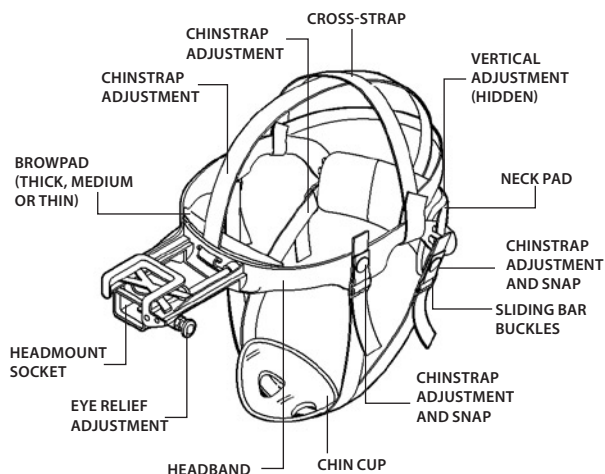
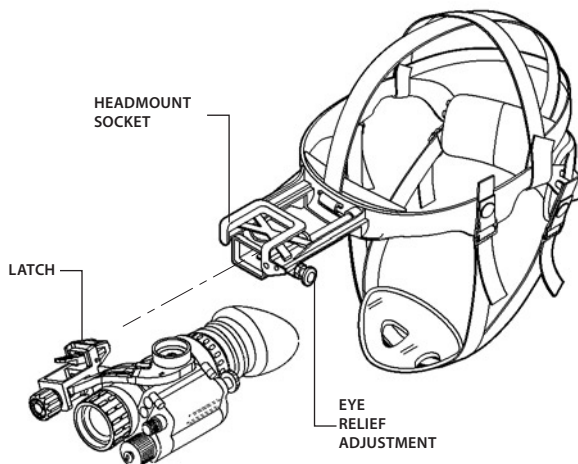

Figure 3-9. MUNVM Headmount Adjustments
Figure 3-19. Headmount/Helmet Mount Adapter Operation
- (1) Prior to donning the headmount, loosen the four ends of the chinstrap approximately two inches from the sliding bar buckles (Figure 3-9).
- (2) Snap the front and rear snaps (Figure 3-9) in place.
- (3) With both hands grasp the neck pad (Figure 3-9) and pull the harness over your head and the neck pad down to the back of your neck.
- (4) Holding the chin cup in position on chin, adjust both sides of the chinstrap until you feel light pressure against your chin. (DO NOT TIGHTEN.)
- (5) Maintain the position of the chin cup and remove any slack from the chinstrap. (DO NOT TIGHTEN.)
It may be necessary to remove the browpad (Figure 3-9) when wearing the headmount over a protective mask.
- (3) Align the headmount/helmet mount adapter's latch to the headmount socket (Figure 3-19). Press and hold down the latch lever while installing the monocular into the headmount socket. Release the latch when the monocular fully engages the socket.
- (4) Set your eye relief by depressing the eye relief adjustment (Figure 3-19.) and move the monocular back toward your non-dominant eye until the eyecup comfortably seals around the eye.
- (5) Turn the monocular ON.
- (6) Readjust the vertical adjustment (Figure 3-9) of the headmount until the monocular is properly aligned with your eye.